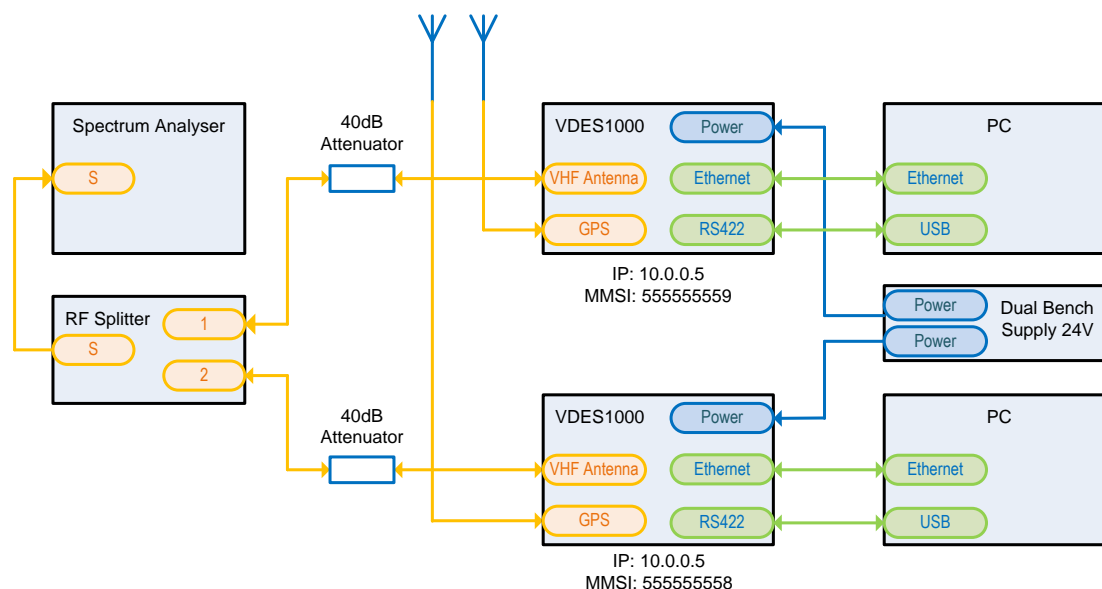

Figure 6 Unit-to-unit File Transfer
Figure 6 shows the test configuration for two VDES1000 units. Each VDES1000 is connected to a PC for control purposes and the antenna ports are connected together. The GPS antenna is optional for this test but required for further testing. The RS2422 connection to the PC is optional for this test but is required for further testing.
Note the IP address and MMSI for the units. These can be changed as required by the user. The following steps will describe how to reproduce the setup shown in Figure 6.
1. Connect the two VDES1000 module antenna ports together and connect the PCs as shown in Figure 6.
12. Perform steps a and b on both units and ensure each has a unique MMSI. For the purpose of this document, the MMSI values shown in Figure 6 have been used.